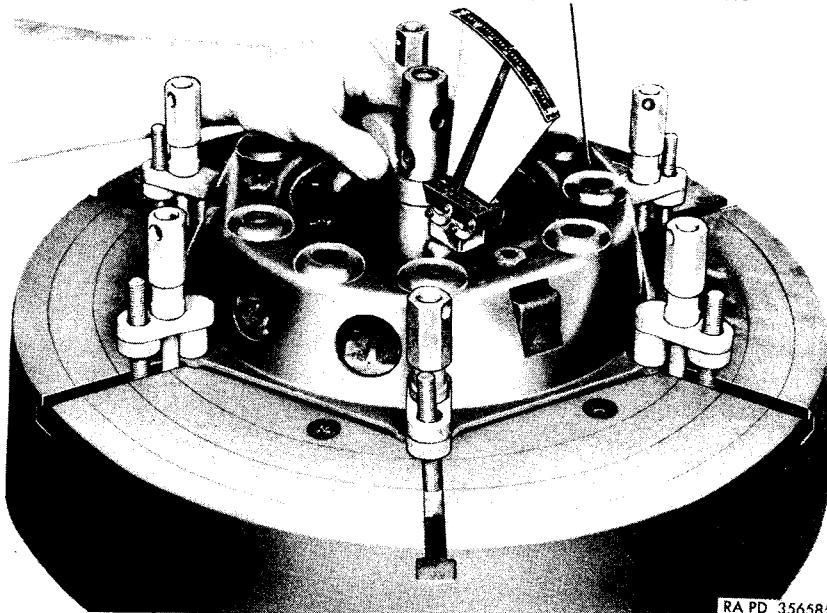

Figure 102. Checking release lever adjustment with clutch rebuilders 41-C-2480
- (3) *Compressing cover on pressure plate.* Compress the cover on the pressure plate with clutch rebuilder 41-C-2480. Make sure the driving lugs of the pressure plate are lined up in the holes in the cover and that the compression springs are not cocked or off their seat while compressing the pressure plate assembly.
- (4) *Installing eye bolt nuts.* Continue to compress the assembly until the cover flange rests against the rebuilder base. Screw the eye bolt nuts, large end toward the cover, on the eye bolts until the top of the nuts and end of eye bolts are flush. Slowly release the pressure on the compression springs.
- (5) *Checking and adjusting release lever* (fig. 102). Adjust the release levers for proper position whenever the clutch is disassembled or whenever clutch parts are replaced or repaired. Install the rebuilder indicator gage and measure the position of the levers. Make lever adjustments carefully so that all levers will be adjusted evenly. Adjust the lever up or down by turning the eye bolt nut until the proper setting is obtained. Then, move the rebuilder gage to the other two release levers and adjust in the same manner. Stake the adjusting nuts to lock them in place.